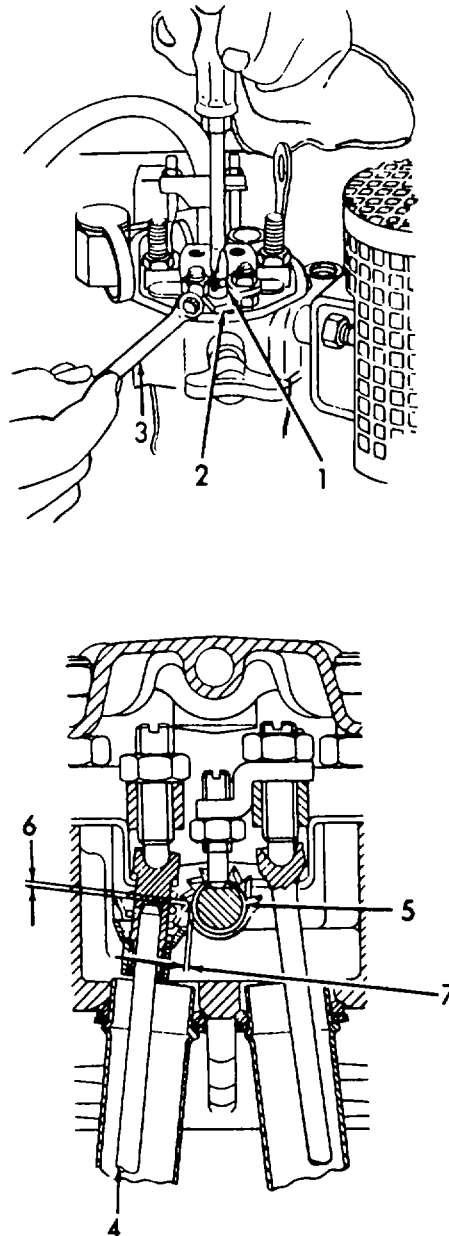

Figure 5-23. Decompression Screw and Pinion Adjustment.
- (5) Refer to figure 5-23. The adjustment of decompression adjustment screw (1) is required if the engine does not decompress when the decompression lever is in position "A".
- (6) Turn engine clockwise and put decompression lever in position "A".
- (7) Loosen nut (2) using box wrench (3) and turn adjustment screw (1) clockwise until rocker touches valve stem.
- (8) Turn adjustment screw (1) another half turn and secure by tightening nut (2).
- (9) Check clearance of complete pushrod (4) and pinion (5).
- (a) Use a feeler gauge to check that clearance (6) between socket of complete pushrod (4) and pinion (5) is 0.039 inch (1.0 mm).
- (b) Check that clearance (7) is 0.039 inch (1.0 mm).
- (c) Clearance can be adjusted by adjusting complete pushrod (4) for clearance (6) and adjusting rocker shaft for clearance (7).